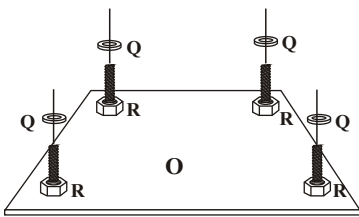

FIGURE 1A
- A. Slide a 16mm Thick Washer (Q) over each of the J-Bolts(N) as shown in FIGURE 1A.